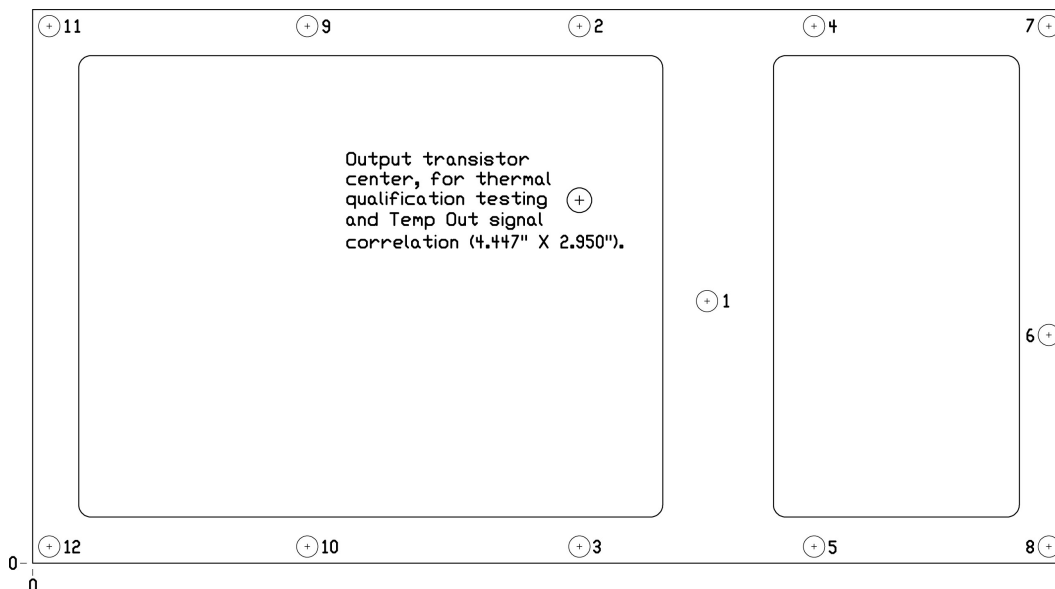

**Figure 4: HD31584 Typical P_{1dB} and Safe
- 6) Apply +50VDC, then +28VDC, then sufficient RF drive to achieve desired output level. The maximum amplifier RF input power is 0dBm. [This amplifier is designed to operate in a non-saturated linear mode only. Regardless of the input power, ensure that the Safe Operating Area \(SOA\) power level indicated in Figure 4 is not exceeded, or amplifier damage may occur, and will void the warranty.](#)